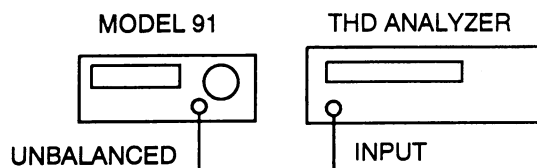

Figure 3-5. Sine Purity Setup
- Connect the Model 91 and test equipment as shown in figure 3-5. Be sure to terminate the Unbalanced output with a 50Ω termination. Verify the Sine function is selected.